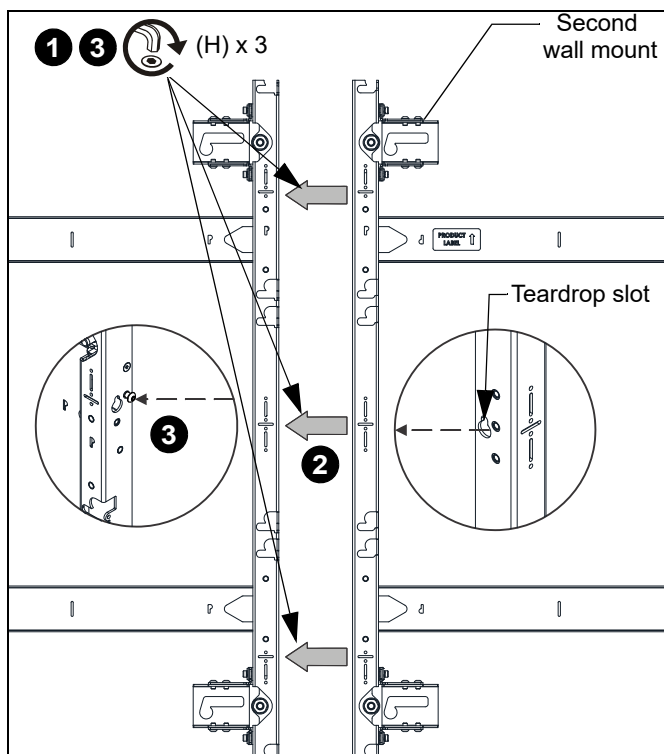

Figure 13
- Hang the second mount (matching up teardrop slots on the left side) onto the fasteners installed in Step 1. (See Figure 13)
- Level mount then tighten fasteners installed in Step 1 through teardrop slots on second mount. (See Figure 13)